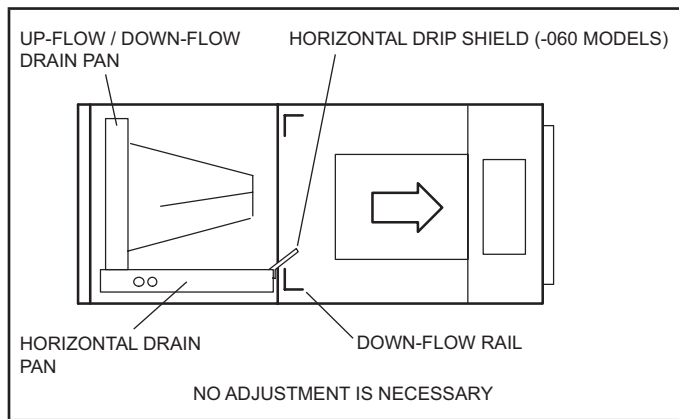

FIGURE 2. Right-Hand Discharge Configuration
- 2 - Install the horizontal shield on the front edge of the horizontal drain pan as illustrated in figure 2.